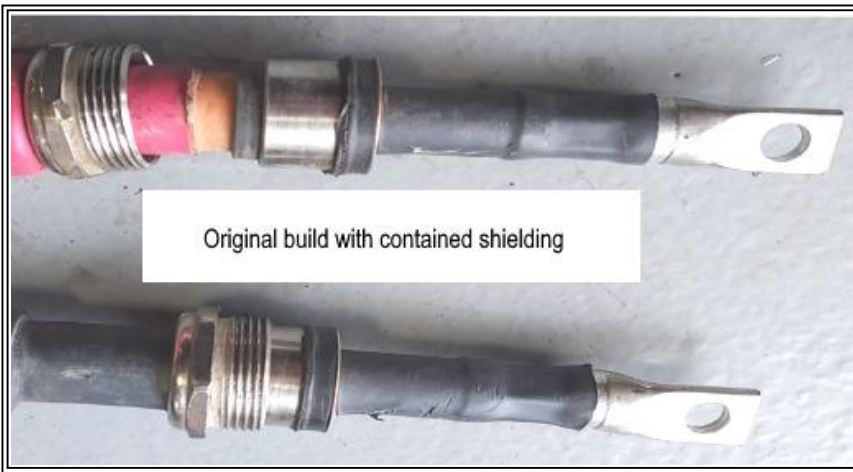

Figure 2: Original build with contained shielding
1. Figure 2 is the original build with contained shielding and can be reused as is and does not need any further attention to the shielding.